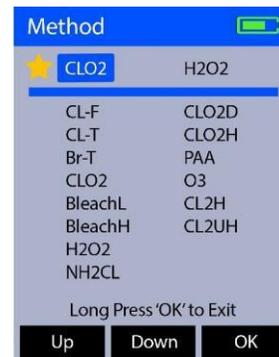

Figure 4.
1. Press **Color** (  ) to launch the **Method** screen (Figure 4).